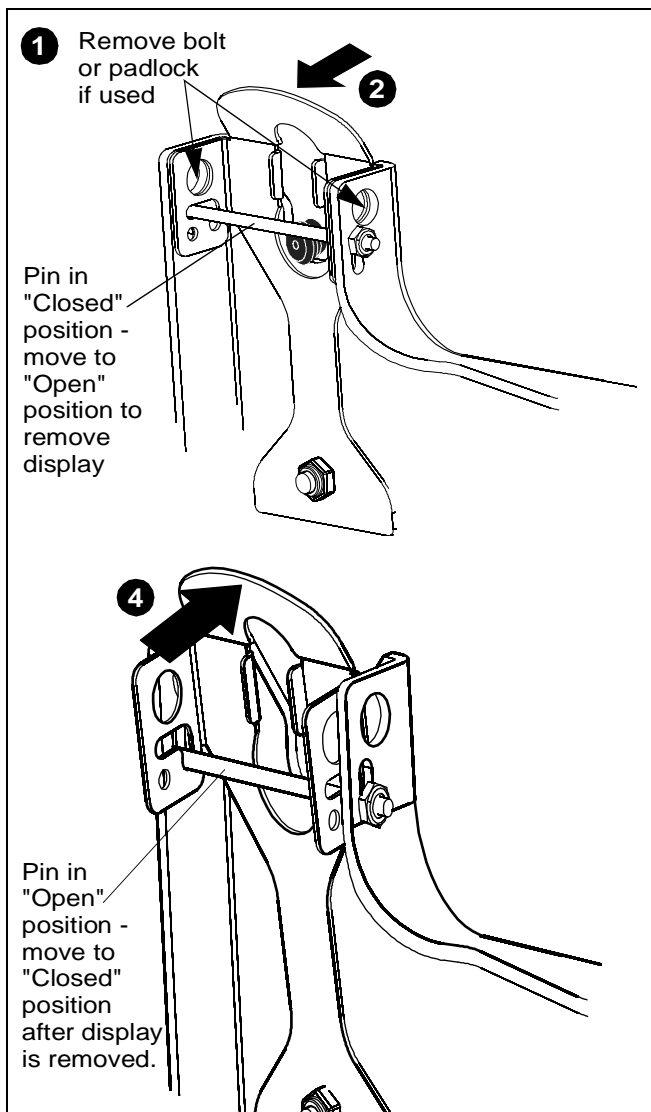

Figure 15
1. Remove bolt or padlock from faceplate (if used). (See Figure 15)
2. Pull back on flag on upper mounting hole and press pin down into "Open" position. (See Figure 15)
4. Lift up on pin and place flag back against faceplate to return it to "Closed" position. (See Figure 15)